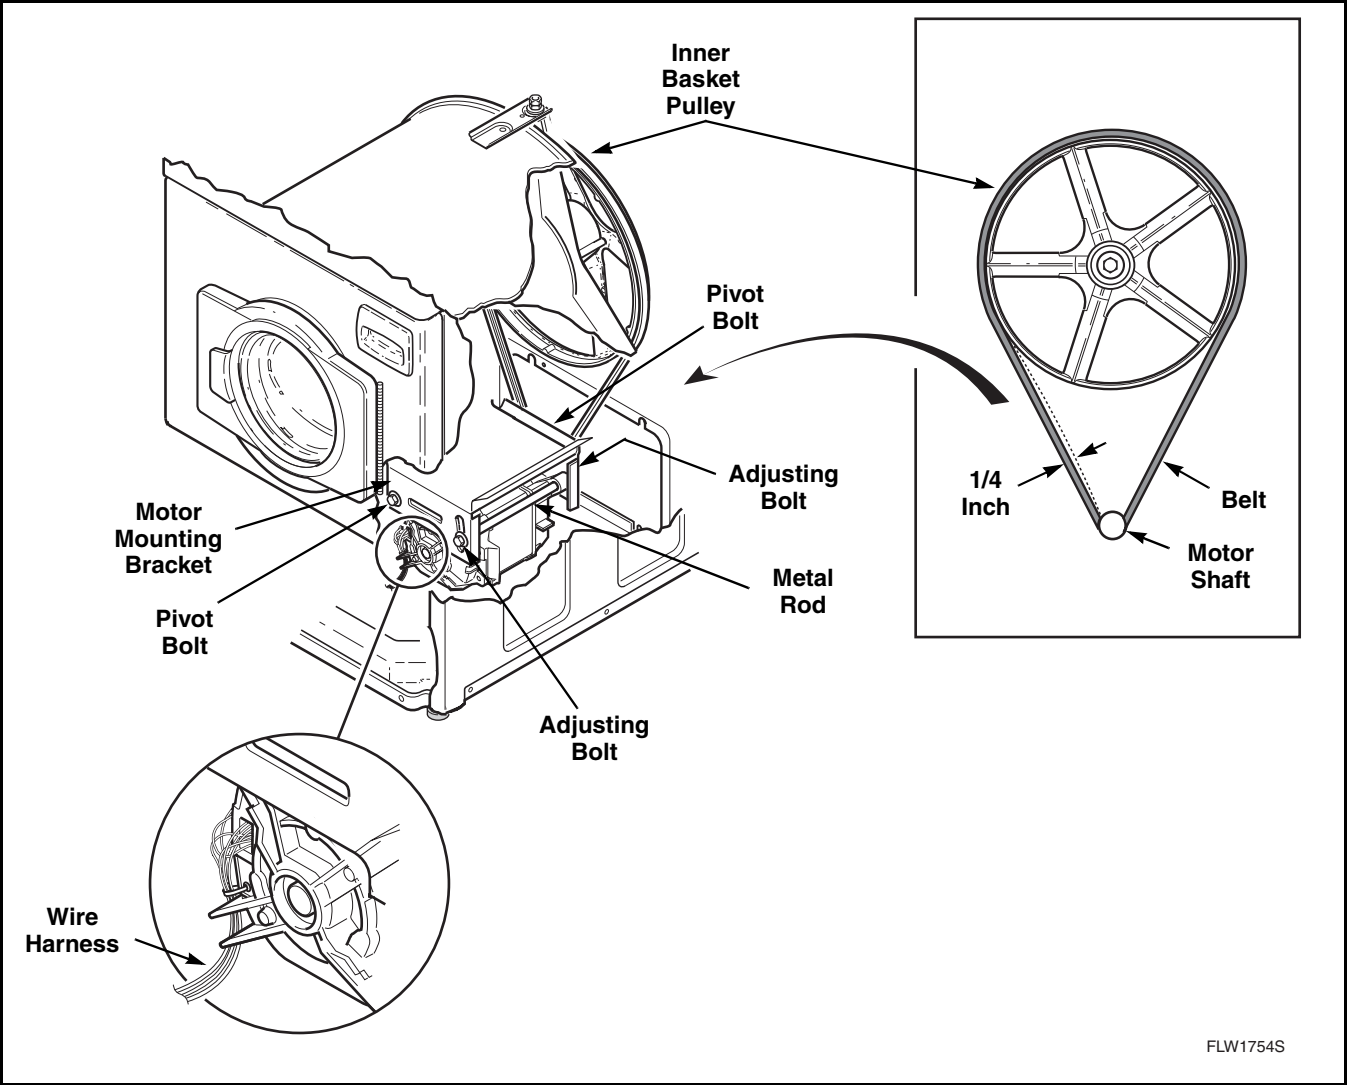

Figure 17
- d. Run belt off cylinder pulley while slowly turning pulley. Refer to *Figure 17*.
- f. Working through the front access door opening, place a locking pliers on the metal rod and loosen the two adjusting bolts. Repeat procedure to loosen the two pivot bolts. Refer to *Figure 17*.
- g. Pull down on motor to increase belt tension. Use a Burroughs belt gauge to obtain proper tension. Proper belt tension is obtained when belt can be deflected approximately 1/4 inch (6.35 mm) from normal position when moderate pressure 50 to 60 pounds (22.68 to 27.22 Kg) is applied to a point midway between pulleys. Refer to *Figure 17*.
- h. After proper belt tension has been obtained, tighten belt adjusting bolts firmly, then tighten pivot bolts. Refer to *Figure 17*.